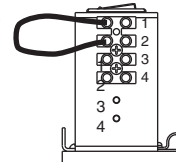

Figure 6
Step 14: Using a short jumper cable, momentary jump terminals 1 and 2, see Fig. 6 below, to activate unit. When door reaches 20°, switch Breaker Switch to "OFF" position cutting power to the unit. Allow door to fully close (door may be manually pulled closed).
Step 17: Flip Breaker Switch to "RESET" to turn power on. Jump terminals 1 and 2 (as shown in Fig. 6) to activate door. Note open position of the door. Allow door to close.